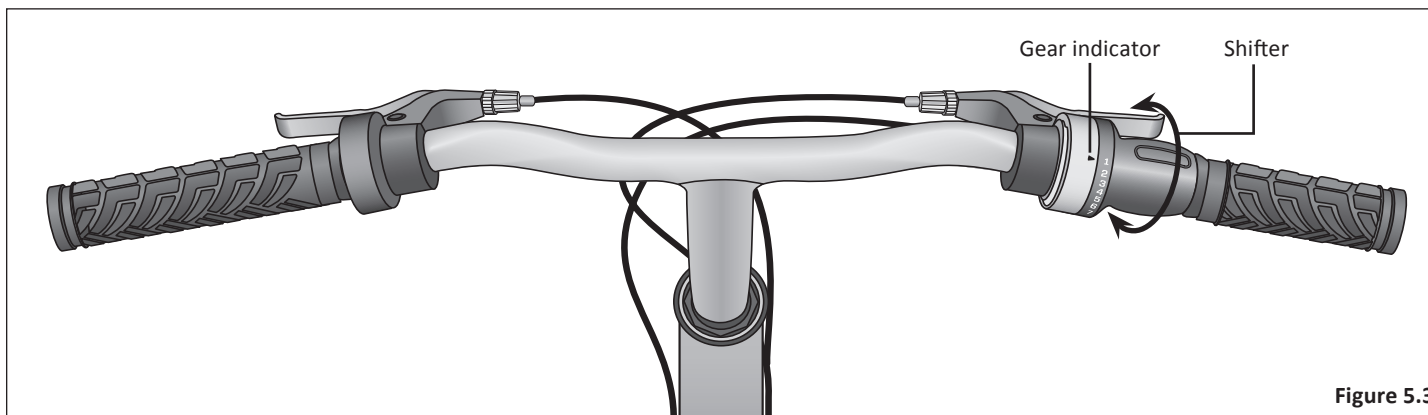

Figure 5.3
- The rear shifter (right) will have an indicator that reads from 1 and up. **Figure 5.3**